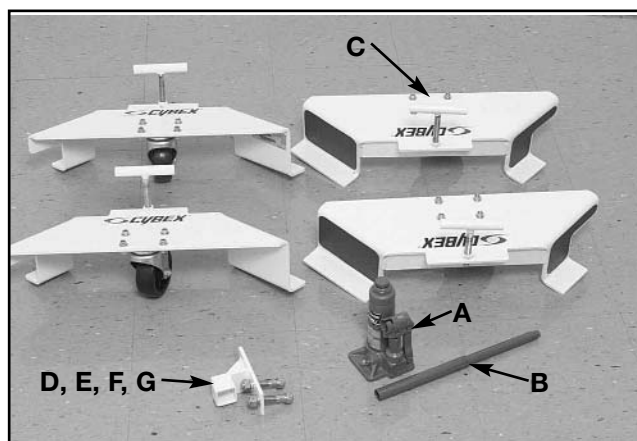

Figure 1
2. Verify you received the items shown in Figure 1.